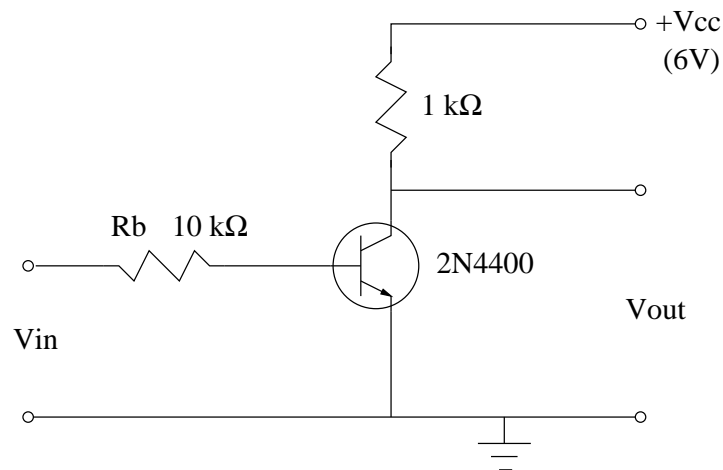
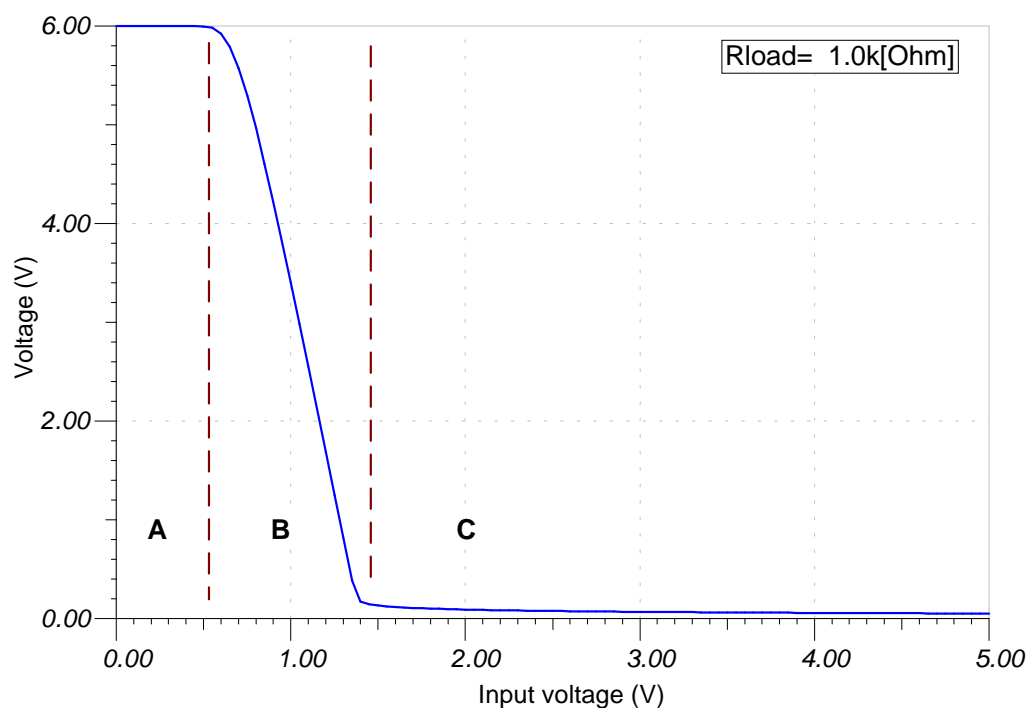

Figure 4.3: The 2N4400 transistor as a switch.
Figure 4.4: The 2N4400 transistor as a switch.
The transistor as a switch circuit (figure 4.3) may be used as a voltage amplifier by operating it in region B (of figure 4.4).
Re-generate figure 4.4 but with $R_L = 500 \Omega$. From the resulting plot you should see that the input voltage should be between 0.6 V and 1.8 V for amplification to occur.
Exercise 22. Simulate the circuit of figure 4.3 but with $R_L = 500 \Omega$ and input signals as sinewaves of 1 kHz with (A) amplitude=0.3 V, d.c. offset: 1.2 V, (B) amplitude=0.3 V, d.c. offset: 0.6 V, (C) amplitude=0.8 V, d.c. offset: 1.2 V. (Note: include only the oscilloscope traces in your report).